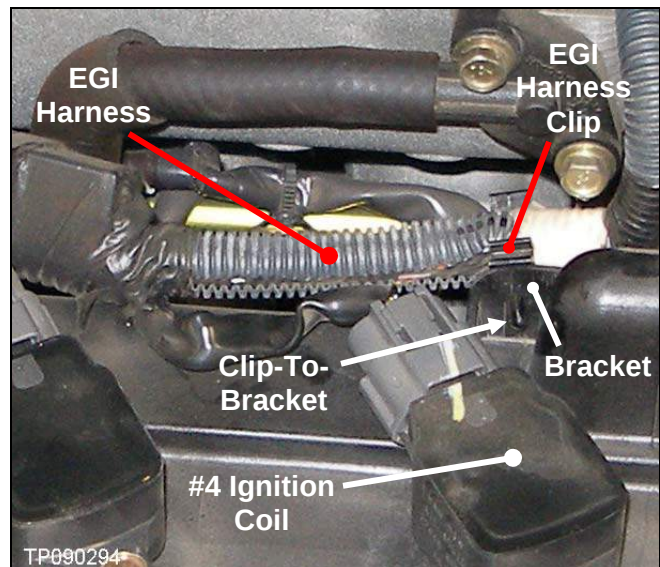

Figure 4
7. Locate the section of the EGI harness as shown in Figure 4.
- a. Unclip the EGI harness clip from the bracket, and then remove it from the harness (see Figure 4).